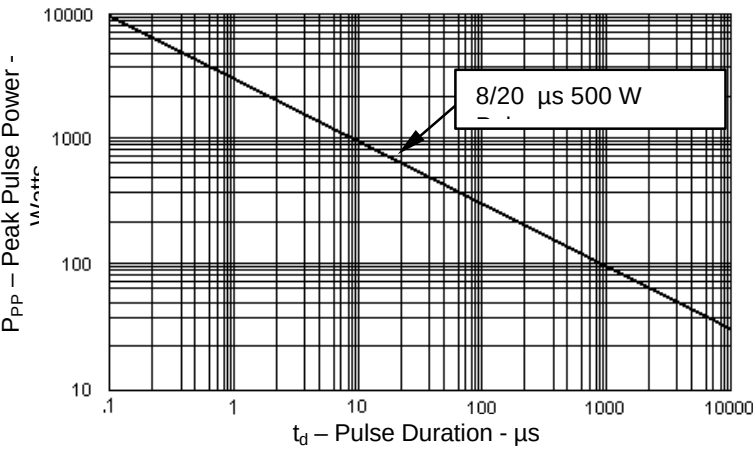

FIGURE 1
- Peak Pulse Power: 500 Watts (8/20 µsec, Figure 1)